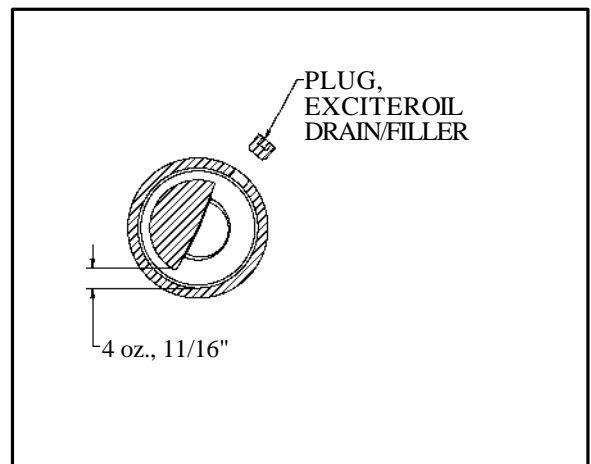

Fig. 1: EXCITER OIL LEVEL
2. Remove plug on exciter housing (see figure 1).
3. The oil level should be up to or just below the specified levels at all times. With the dipstick as close to vertical and the plate as level as possible, check the oil level with a dipstick approx. 1/4" diameter or less & the exciter shaft rotated to the position shown in Fig. 1. If the oil level is low, add Exciter Oil to the exciter. Drain any excess oil from the exciter (refer to the "Changing Exciter Oil" section). **DO NOT OVERFILL - overfilling can result in excessive temperatures in the exciter unit.**
2. Remove plug on exciter plate housing (see figure 1).
4. Pour specified amount of Exciter Oil into the exciter housing. The oil level must be at the levels specified in Fig. 1. For checking oil levels refer to Checking Exciter Oil section. Drain any excess oil from the exciter. **DO NOT OVERFILL - overfilling can result in excessive temperatures in the exciter units.**